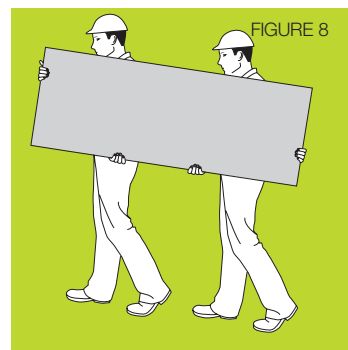

FIGURE 8
- Carry with two people (figure 8)